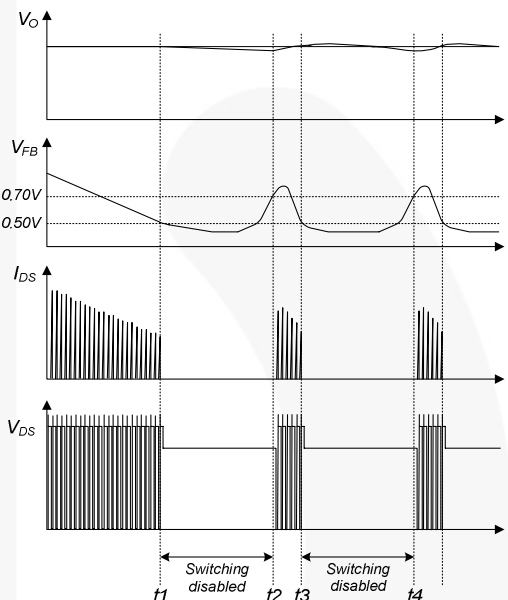

Figure 23. Burst-Mode Operation
5. Soft Burst-Mode Operation: To minimize power dissipation in standby mode, the FSGM300N enters burst-mode operation. As the load decreases, the feedback voltage decreases. As shown in Figure 23, the device automatically enters burst mode when the feedback voltage drops below V_{BURL} (500mV). At this point, switching stops and the output voltages start to drop at a rate dependent on standby current load. This causes the feedback voltage to rise. Once it passes V_{BURH} (700mV), switching resumes. The feedback voltage then falls and the process repeats. Burst-mode operation alternately enables and disables switching of the SenseFET, thereby reducing switching loss in standby mode.